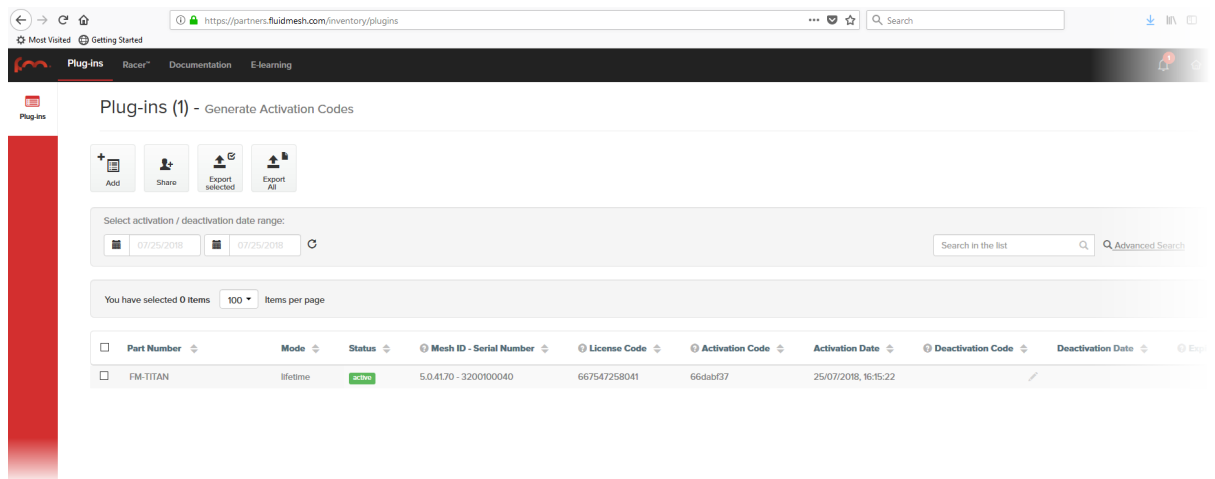

Figure 71. Partner Portal Plug-ins page (License code deactivation)
- The Plug-ins web page will be shown (Figure 71 \(page 168\)).